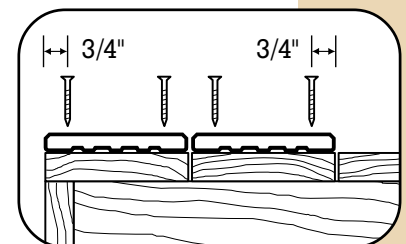

Fig. 17
- **TimberTopper should not overlap the edges of the underlying planks (Fig. 17).**